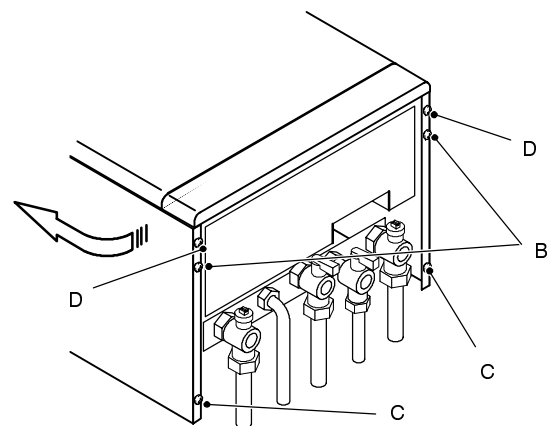

Fig. 3 – bottom view of the boiler
To remove the side panels loosen the screws *B* and *C* (Fig. 3), bring the base of the panels away from the boiler and lift them, freeing them from the top hooks.
- 2 Loosen the screws *B* and *C* (Fig. 3).